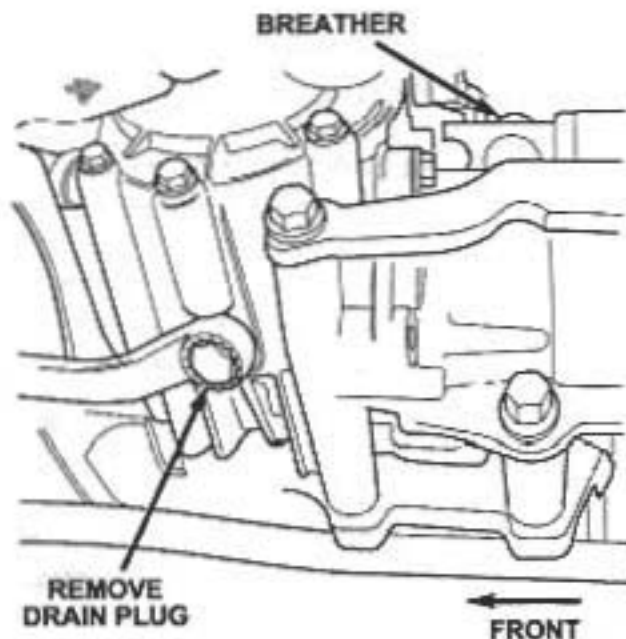

Figure 1
- a. Remove the transfer case breather (Figure 1).
- c. Remove the transfer case drain plug and drain the fluid from the transfer case (Figure 1).
5. Remove the transfer case drain plug and drain the fluid from the transfer case (Figure 1).